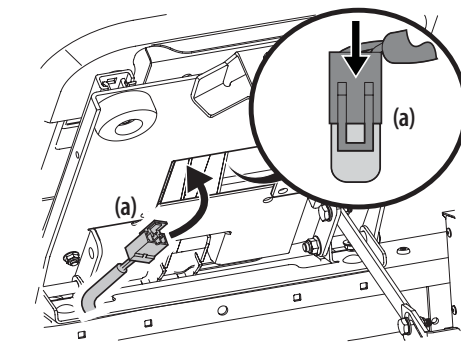

Figure 2-9
- Insert the wiring harness (a) into the bottom of the seat as shown in Figure 2-9.